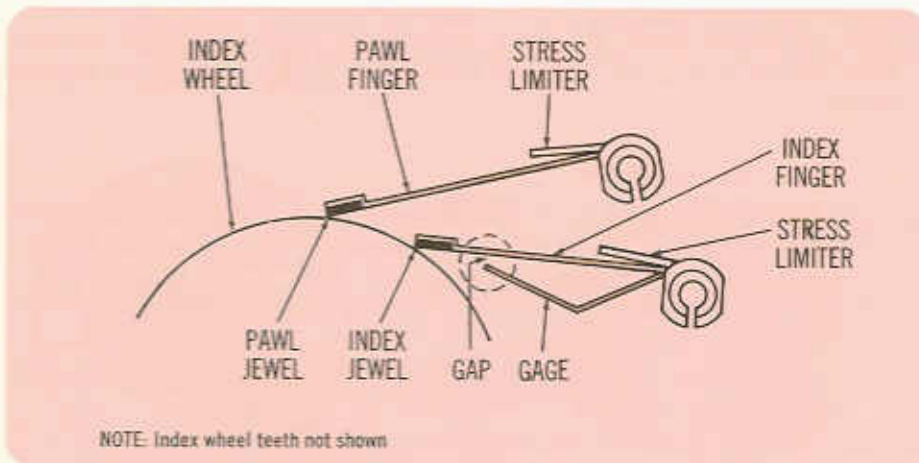

Fig. 19
4. Use collet adjusting tool to rotate index collet, bring index jewel into wheel until the gap is larger than it was in step 3 by 1 to $1\frac{1}{2}$ index jewel thicknesses. If the gap in step 3 was less than the thickness of the index finger, for practical purposes this gap should be increased to about $1\frac{1}{2}$ jewel thicknesses at the completion of collet adjustment. (See Fig. 19.)
5. Observe the stress limiters on index and pawl fingers. (See Fig. 19.) Check that no more than $\frac{1}{3}$ of the length of the stress limiter is in contact with the index or pawl finger. Also, check that end of stress limiter is no more than 3 thicknesses of the stress limiter away from index or pawl finger. If adjustment is necessary, use tweezers to bend stress limiter; then repeat steps 3 and 4.